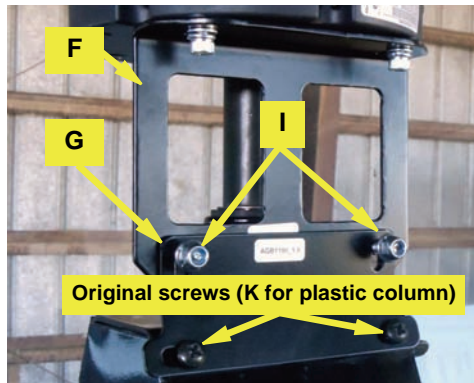

Figure 3f: Lower anti-rotational bracket installed
- f. Loosely install the lower anti-rotational bracket **G** between the upper a/r bracket **F** and the steering column. Use hardware **I** to attach **G** to **F**. Attach **G** to the steering column using either the original screws (metal column) or hardware **K** (plastic column - not shown) (Figure 3f).